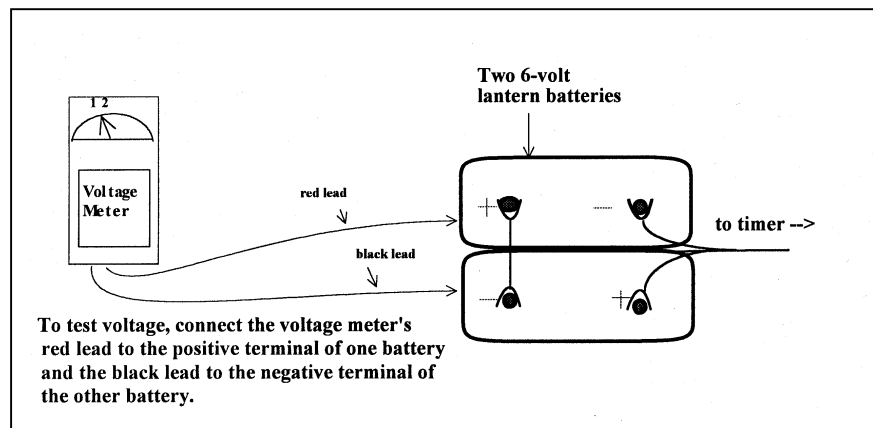

Figure 4-6. Paragon Timer Battery Configuration.
To change the 6 volt batteries (Figure 4-6):
- Measure the voltage of the new batteries as shown in Figure 4-6. The measurement should be approximately 12 volts.